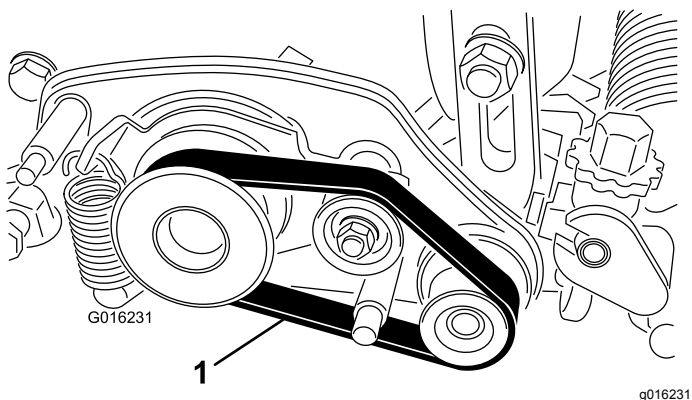

Figure 16
36. Route the belt onto the driver pulley, idler pulley, and driven pulley as shown in Figure 16.